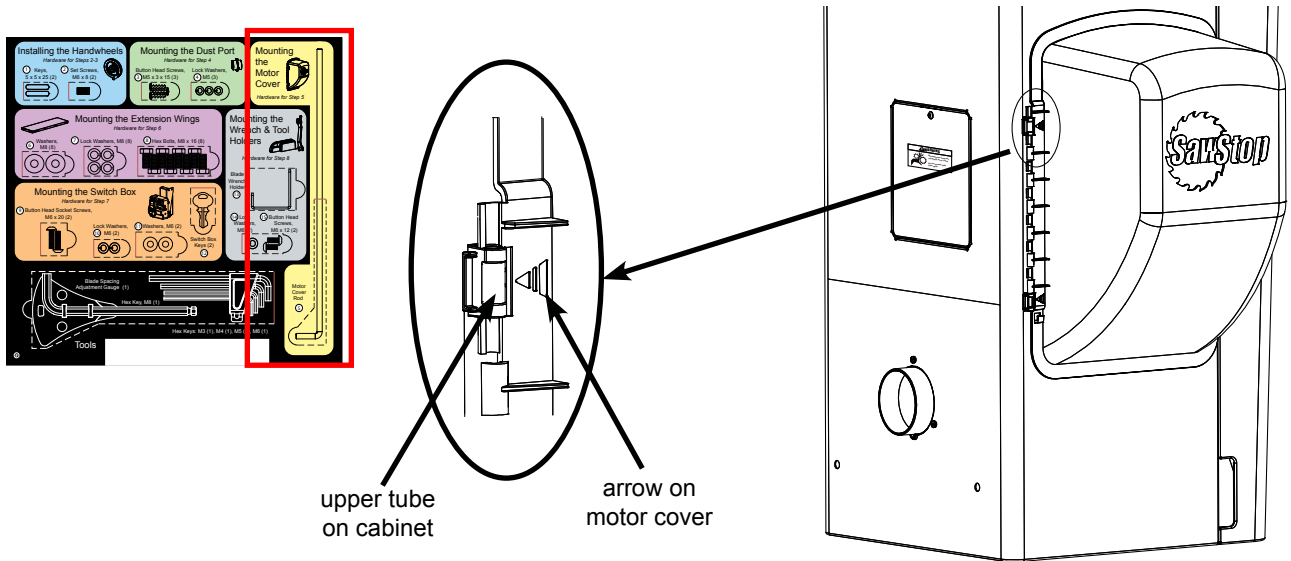

Fig. 22
5. Locate the motor cover and remove the motor cover rod from the area with the yellow background on the Table Saw Hardware Pack. Hold the motor cover against the side of the saw over the motor such that the two arrows on the side of the cover point to the two metal tubes on the side of the cabinet (see Fig. 22).